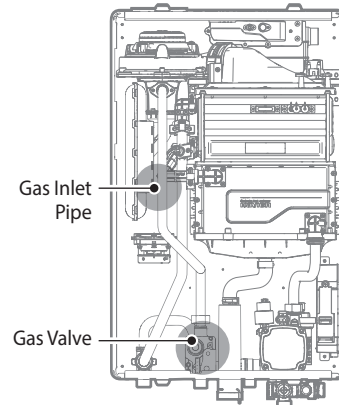
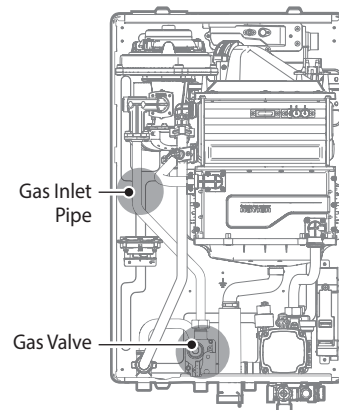

Figure 2-1. 20/23/28LHWE Internal Components
Figure 2-2. NCB-33LHWE Internal Components
8. With the internal components exposed, locate the gas inlet pipe and the gas valve in the middle of the unit, as shown in Figure 2-1 and Figure 2-2.